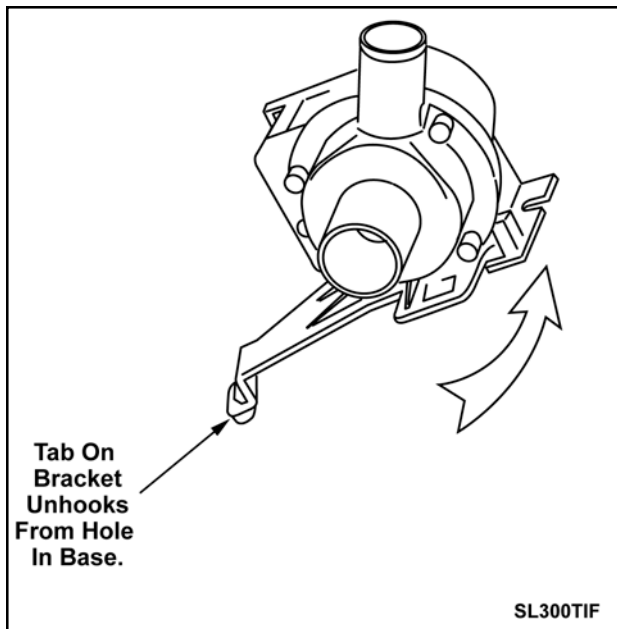

Figure 8-5
5. Lift the recirculation pump at an angle to disengage the locating tab of the mounting bracket from the baseframe. (See Figure 8-5)